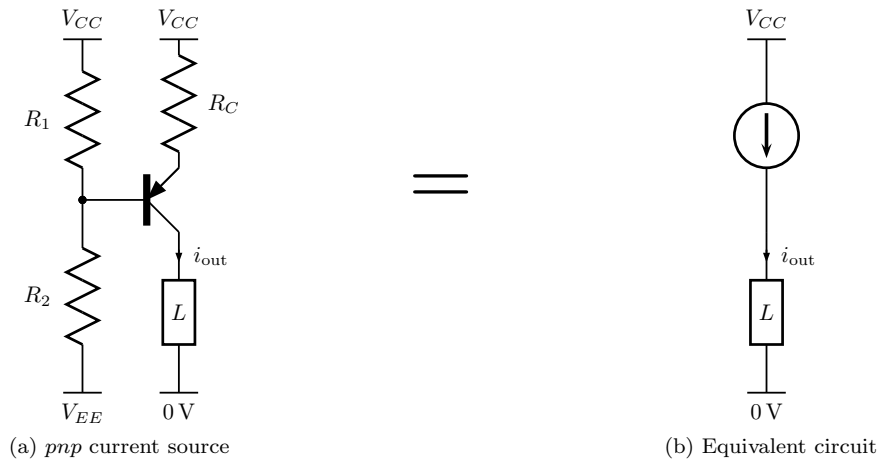

Figure FE-7.2: Alternate implementation of current source from Figure FE-7.1.
The circuit in Figure FE-7.2\(a\) also implements a current source.
4. When you probe the V_{CC} supply for the circuit in Figure FE-7.2\(a\), you notice relatively large ripples.
5. In both Figure FE-7.1(a) and Figure FE-7.2(a), after applying power, the bipolar transistor becomes much warmer than the other elements of the circuit.